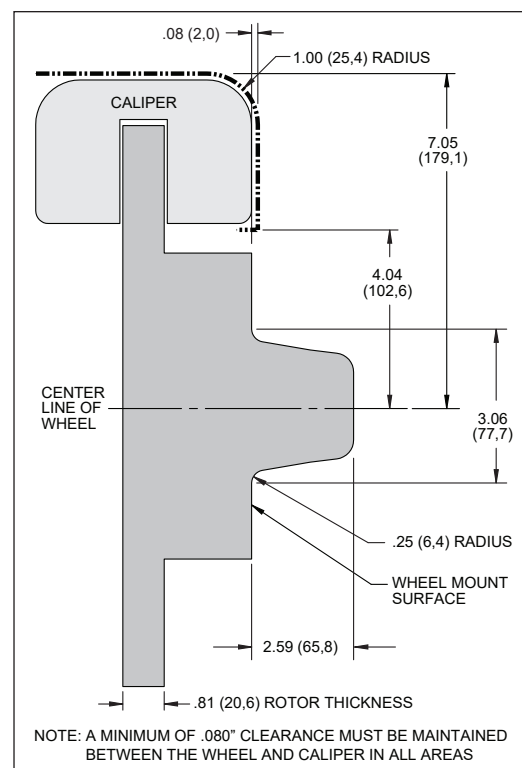

Figure 2. Wheel Clearance Diagram
- Review the Wheel Clearance Diagram (Figure 2, page 3) to verify that there is adequate clearance with the wheels you will be using with the installation.
- Verify wheel clearance utilizing Figure 2.
- Verify the new hub stud pattern in this kit matches the lug pattern of the vehicles wheels. CDP hubs have a 5 x 4.50" and 5 x 4.00" pattern. The 5 x 4.00" pattern does not guarantee fitment with all 5 x 4.00" wheels, either OEM or aftermarket. It is important that the center hole clearance be 3.10" or larger to clear hub snout in the kit, Figure 2.